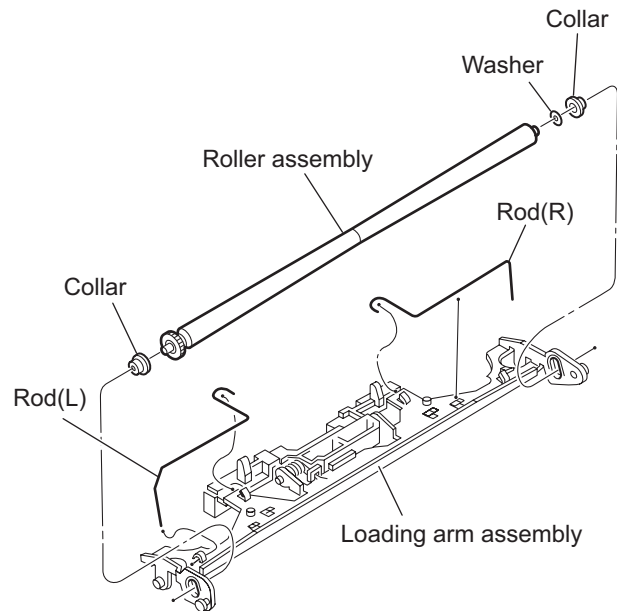

Fig.16
- Remove the roller assembly from the loading arm assembly. (See Fig.16.)
- Remove the two collars and washer from the roller assembly. (See Fig.16.)